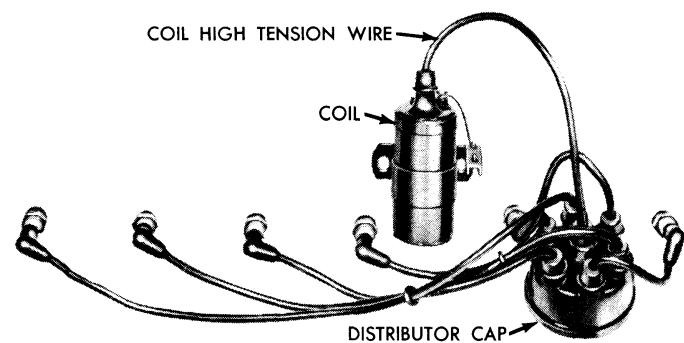

Fig. 6—Ignition Wire Installation—6-Cylinder Engine
(1) **REPLACEMENT—6-CYLINDER ENGINE.** A spark plug wire set for 6-cylinder engines is available for service. The 6-cylinder ignition wire installation is shown in fig. 6.